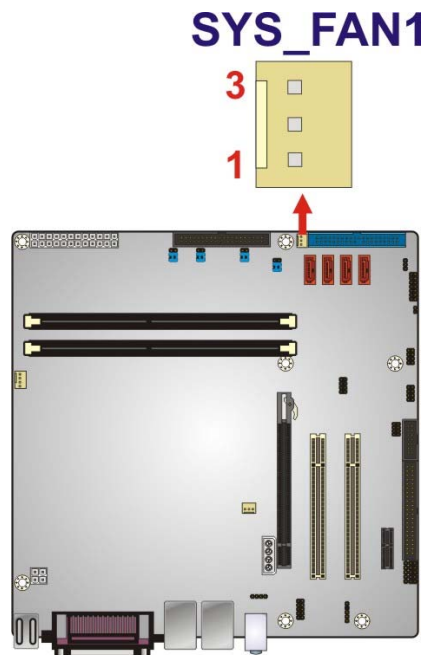

Figure 3-21: System Fan Connector Location
- CN Location:** See **Figure 3-21**